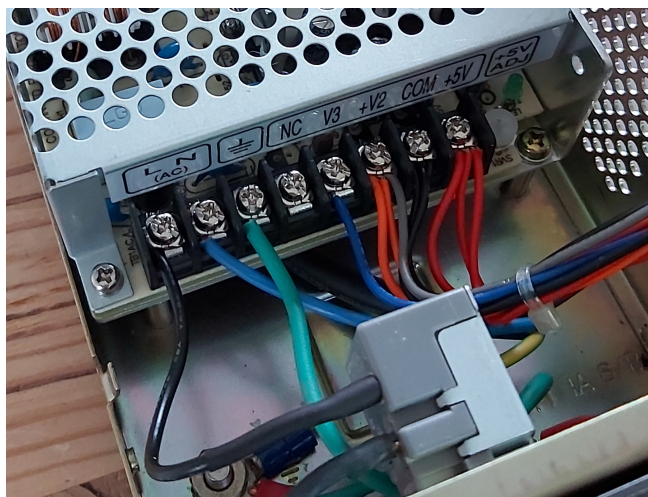

Figure 5.4: Connect all wires to the relevant PSU terminals.
4. Connect the wires leading from the NABU motherboard, as shown in Table 5.2 (above) and Figure 5.4.